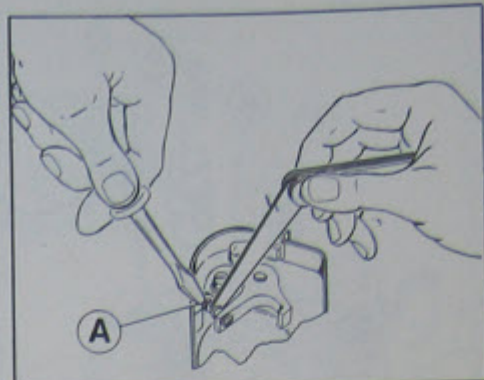

Fig. 18 Adjusting the points
- Insert feeler gauge with the aid of a screwdriver fitted in slot A (see Fig. 18). Gently close points until a «drag» is felt on the feeler.